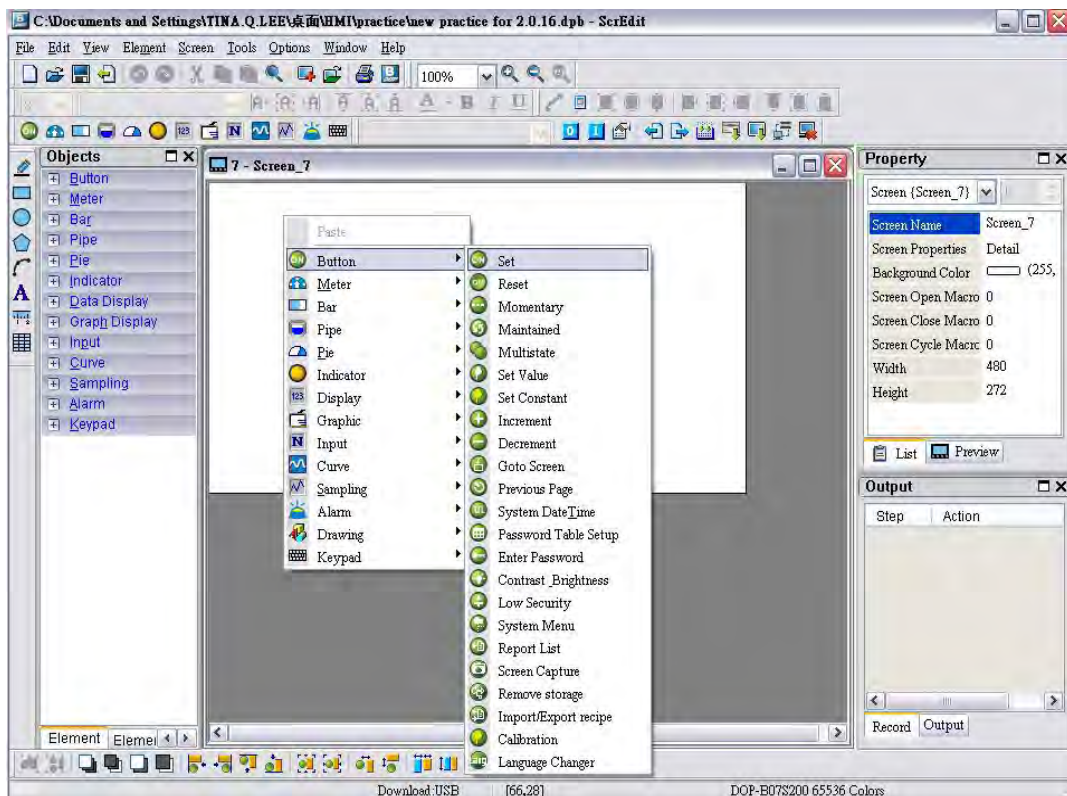

Fig. 3-8-1 Shortcut menu display
1. Right-click the mouse in the work place and a shortcut menu will display as Fig. 3-8-1. The user can choose the desired elements by the mouse.